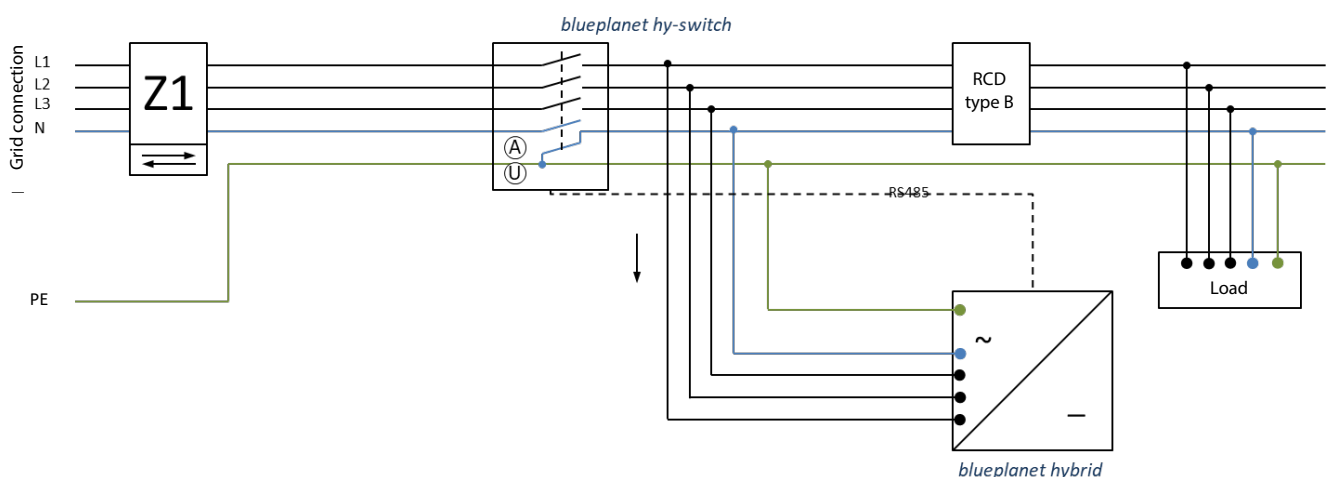

Figure 1. Connection diagram of the device for standby power operation
- ☒ an RCD type B with 30 mA must be used. The installation must be carried out professionally and the function must be checked before commissioning (see Figure 1).
The earthing must also be functional in the event of a grid failure, cf *Figure 1*